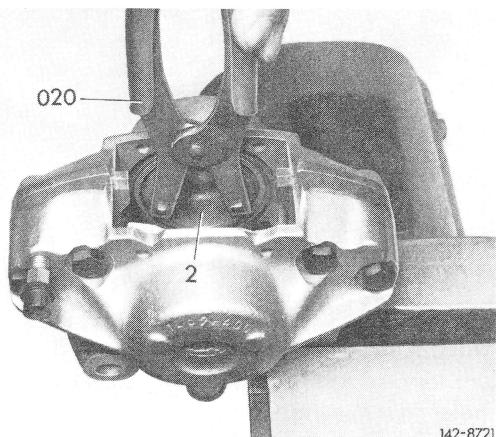

Fig. 12
11 Move piston (2) into correct position with piston rotating pliers (020), if required (Fig. 12).